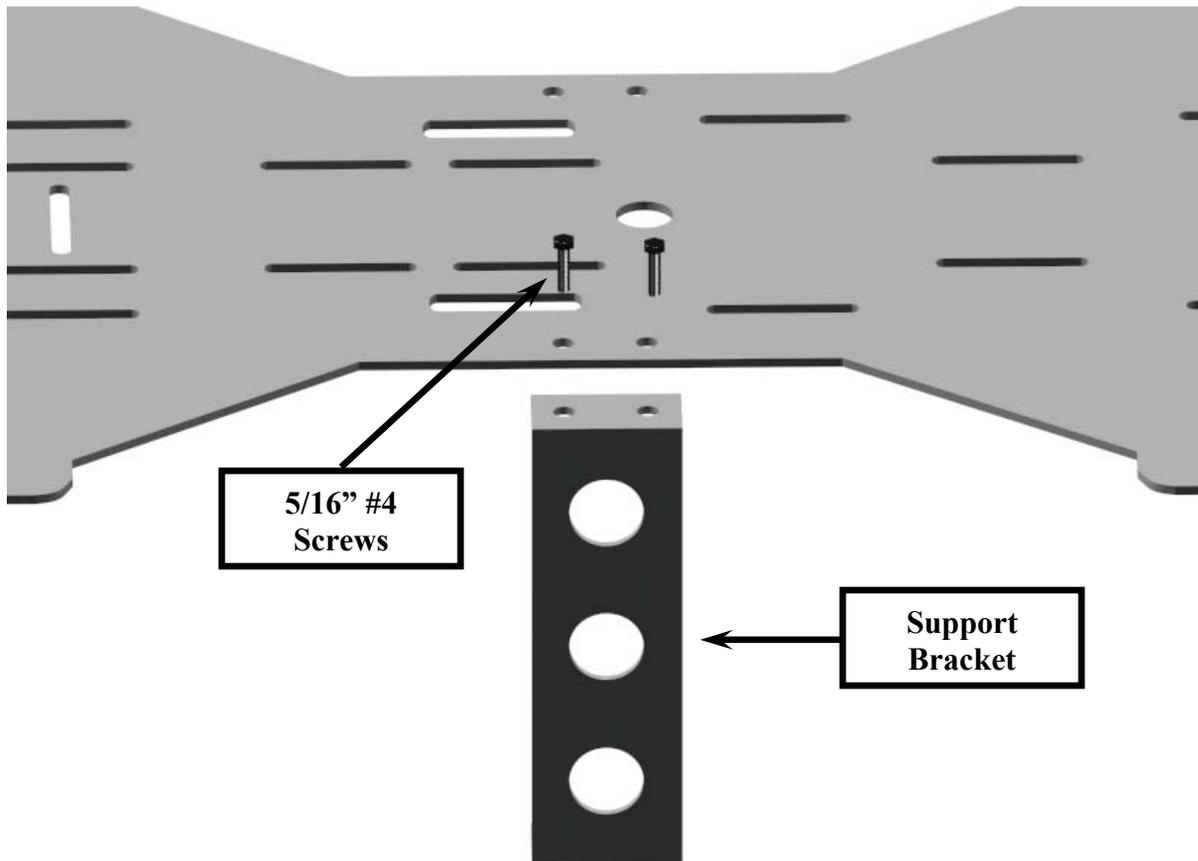

Figure 30
- Using (2) 5/16" #4 screws, install the (4) support brackets to the side of the upper deck as shown in Figure 30. Mount (1) support bracket to the center of the upper deck as shown in Figure 31b.